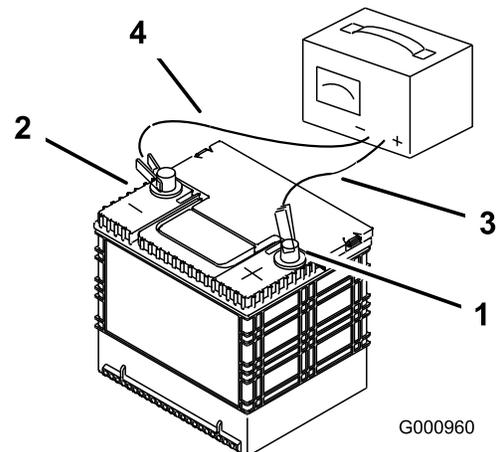

Figure 60
3. When the battery is fully charged, unplug the charger from the electrical outlet, then disconnect the charger leads from the battery posts (Figure 60).